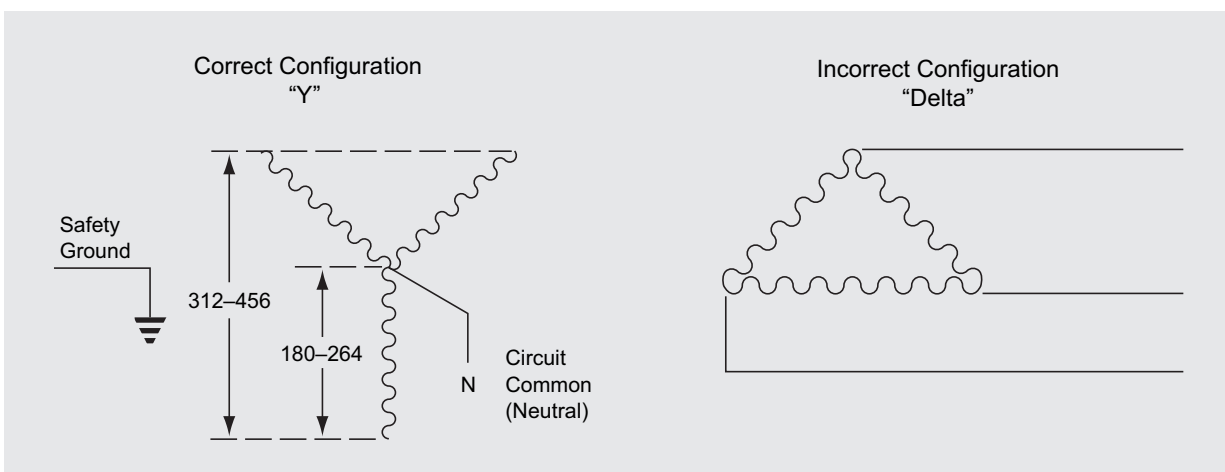

Figure 3. Correct and Incorrect Three-Phase Configurations
For three-phase power service to the Avanti J, use the "Y" connected three-phase configuration shown in Figure 3. Also note the following information:
- The centrifuge can tolerate a drop of 15 volts during the start period at low line voltage (see Figure 3 for the acceptable voltage ranges). The main power supply cable for the centrifuge must be of sufficient wire gauge to provide this condition. The wire gauge required at a particular site must be determined by a facilities engineer at that site.